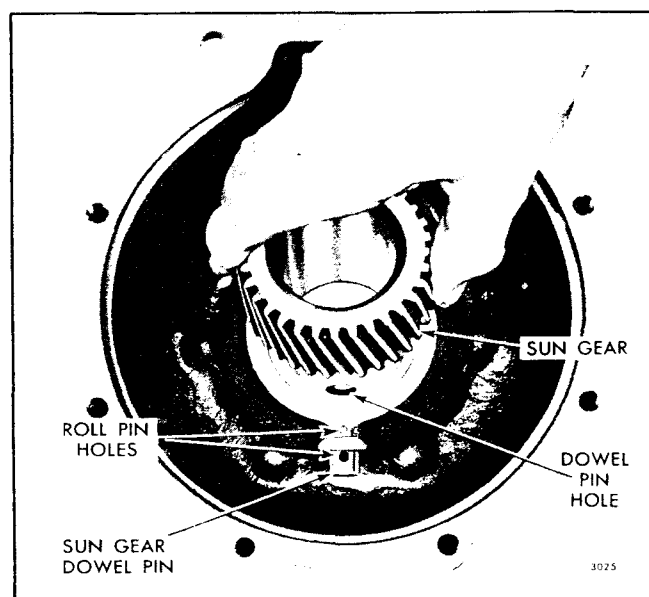

Fig. 93 - Installing Sun Gear in Reduction Gear Housing (1.5:1 Ratio)
- b. Insert the sun gear dowel pin in the dowel pin hole in the gear housing with the roll pin hole in the dowel pin towards the outside of the gear housing and in alignment with the roll pin hole in the gear housing as shown in Fig. 93.
- d. Start the hub of the sun gear straight into the bore of the reduction gear housing with the dowel pin hole in the side of the hub in alignment with the dowel pin as shown in Fig. 93. Lower the sun gear until the hole in the hub of the sun gear is in alignment with the dowel pin, then push the dowel pin in until the roll pin hole in the dowel pin is in alignment with the roll pin hole in the gear housing.